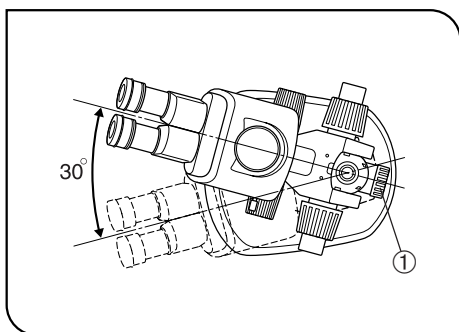

Fig. 1
2. To prevent the microscope body from turning over, its left-right pivot angle must be limited to 30° as shown in Fig. 1. The tilt of the desktop surface should be no more than 5°.
4. To adjust the microscope body height, be sure to hold the microscope body with one hand while loosening the focusing assembly clamping knob ①. (Fig. 1)